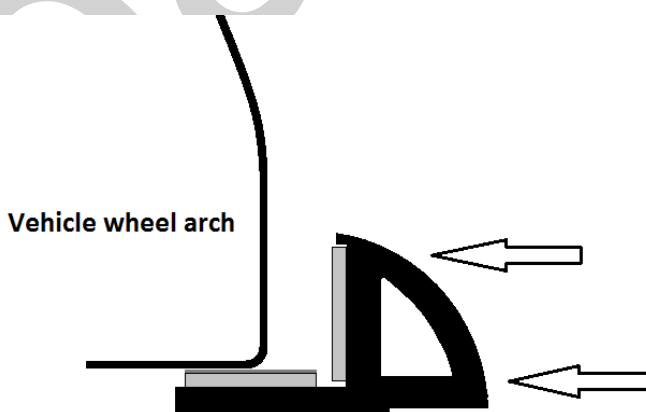

FIG 1
3.5 Keeping a small gap of around 10mm between the exposed tape face and vehicle wheel arch, using the lower bonding face as an aid to positioning (FIG 1) carefully and lightly press the extension to the wheel arch, then working around every 6 inches or so to aid repositioning if required.